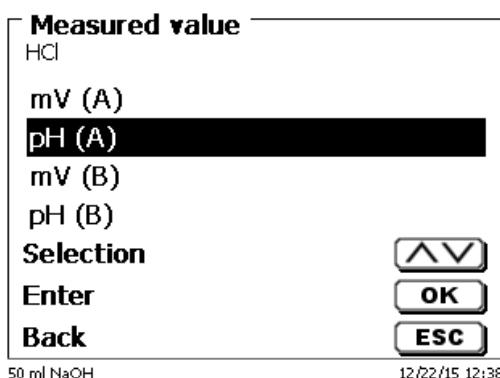

Fig. 121
The measurement speed and the titration end differ again as a function of the respective titration mode. The «Measured value» is the first selection to be made, e.g. «pH (A)» (Fig. 121).